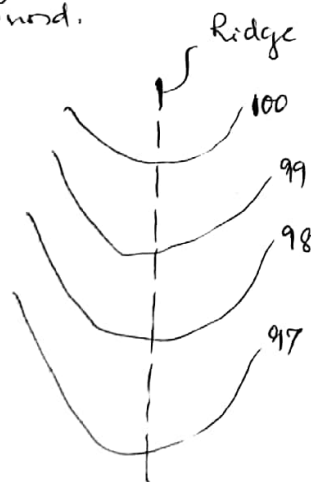
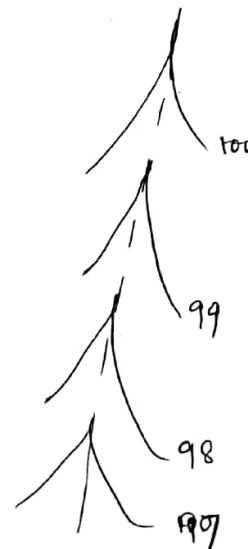

Fig 5a. Ridge line.
Fig 5b. Valley line.
5. Contours deflect uphill at valley lines and downhill at ridge lines. Contour lines in U-shape cross a ridge (fig 5a) and in V-shape cross a valley (fig 5b) at right angles. The concavity in contour lines is towards higher ground. Contour lines in V-shape cross a valley (fig 5b) at right angles. The concavity in contour lines is towards the lower ground.